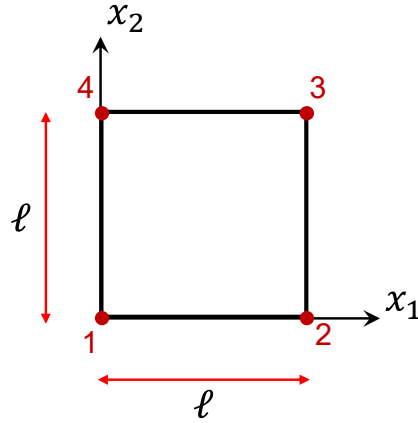

Figure 2: **Isoparametric 2D Quad4 element.**
4. Consider an isoparametric 2D Quad4 element (Figure 2)